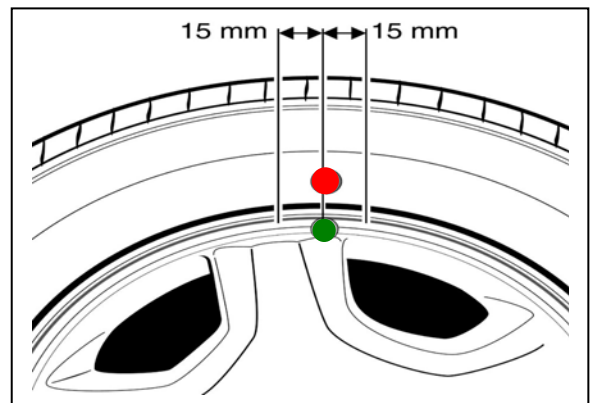

Fig. C-1
-  1. Use tire lube around bead location on wheel prior to mounting the tire. Mount new tire (225/45R17) on alloy wheel, matching tire high spot (red dot) with that of wheel low spot (green sticker). The red dot on tire and green dot on wheel must be aligned to within ± 15 mm center to center. (Fig. C-1)